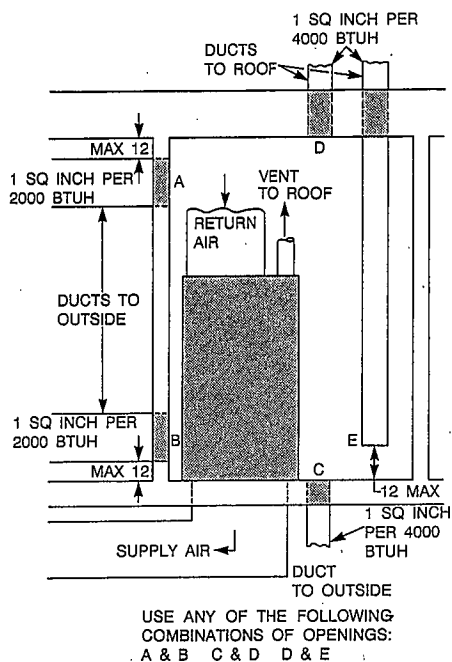

Fig. 3—Air for Combustion and Ventilation
- c. If the furnace is installed on a raised platform to provide a return-air plenum, and return air is taken directly from the hallway or space adjacent to the furnace, all air for combustion must come from outdoors. (See Fig. 3.)
When ducts are used, they must be of the same cross-sectional area as the free area of the openings to which they connect. The minimum dimension of rectangular ducts must not be less than 3 in. (See Fig. 3.)